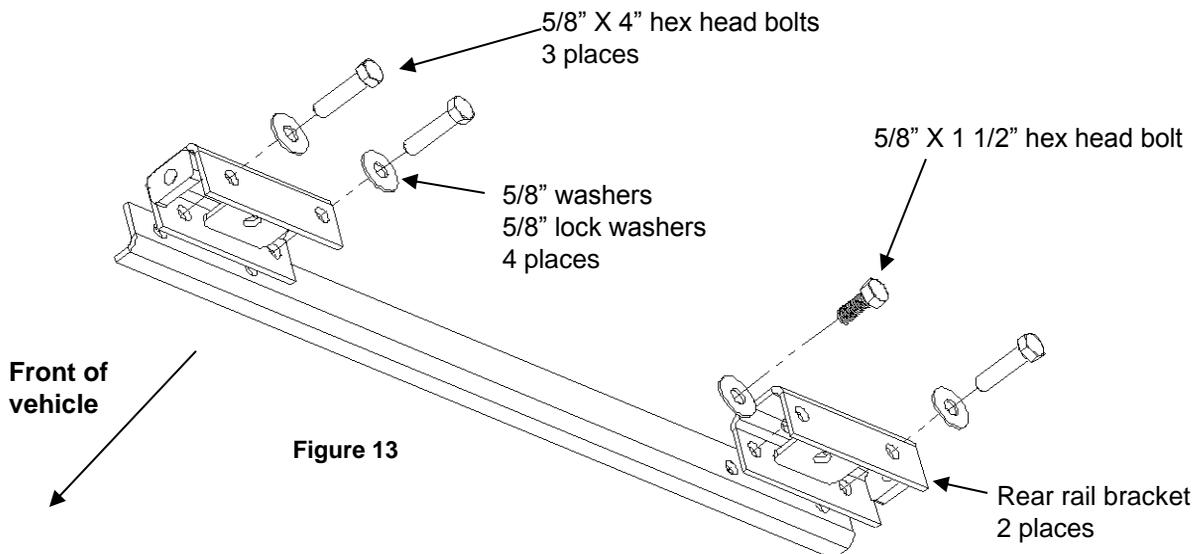

Figure 13
7. Attach rear rail brackets to rear rail angle using 5/8" X 4" (three) bolts, 5/8" X 1 1/2" bolt, lock washers, flat washers, and welded nuts on rear rail angle (**Figure 13**). Use the 1 1/2" bolt for attaching the passenger side bracket inside location. Tighten bolts to hand tight. First torque driver side bolts to 180 ft.lbs. then torque passenger side to 180 ft. lbs.